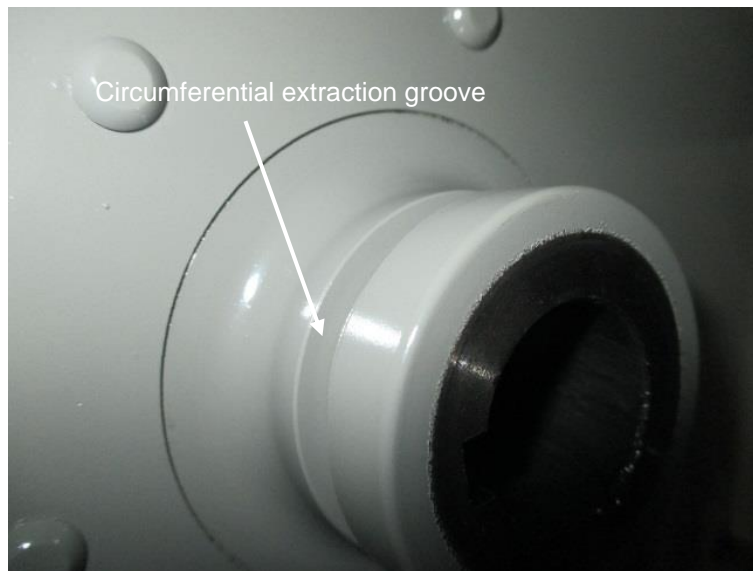
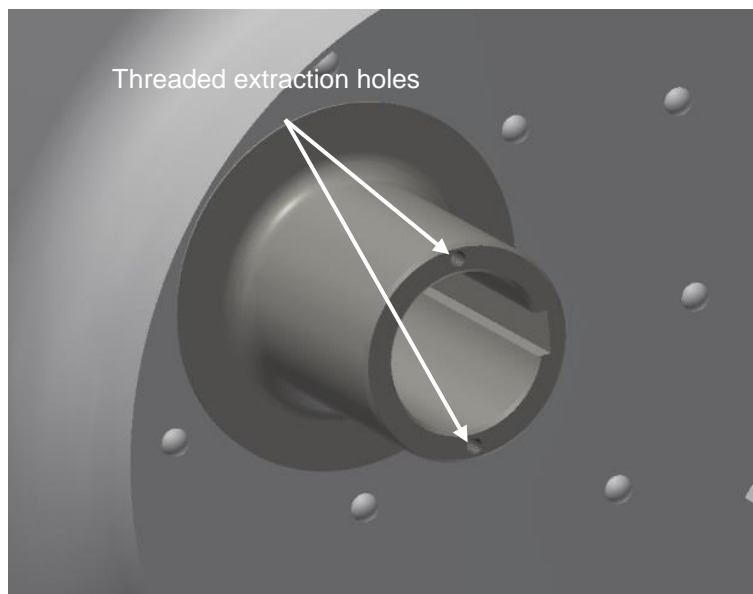

Fig. 10-4 Hub with circumferential extraction groove
Fig. 10-5 Hub with threaded extraction holes
**CAUTION!** The impeller hub may have a circumferential extraction groove (Fig. 10-4) or threaded extraction holes (Fig. 10-5).
6.- Secure free end A of the lifting tube (see Fig. 10-4).